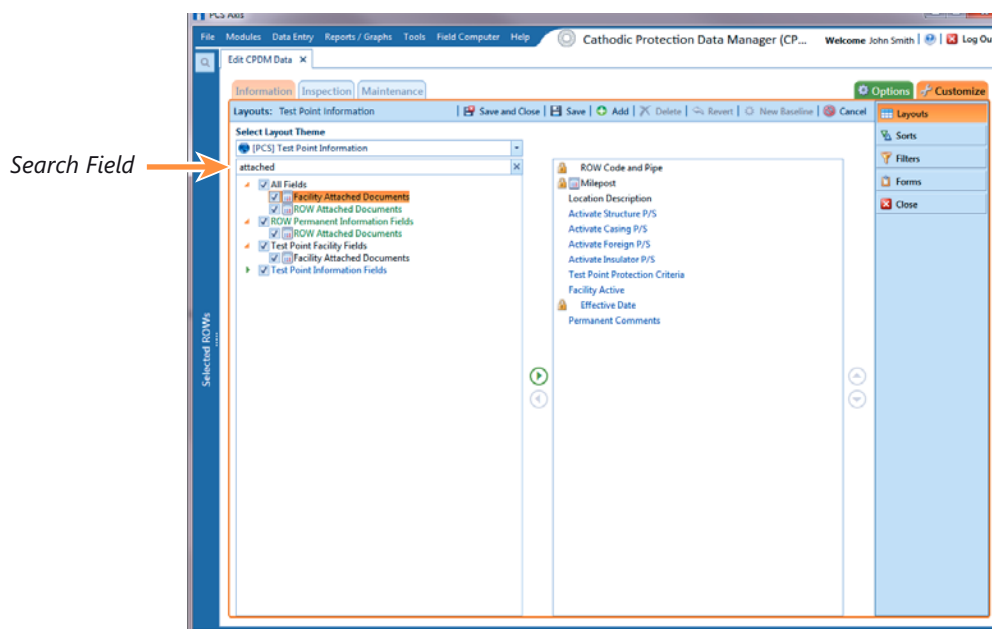

Figure 7-95. Layouts
- a Click the check box for the fields **Facility Attached Documents** and/or **ROW Attached Documents** in the left pane of the window (Figure 7-95, page 290).